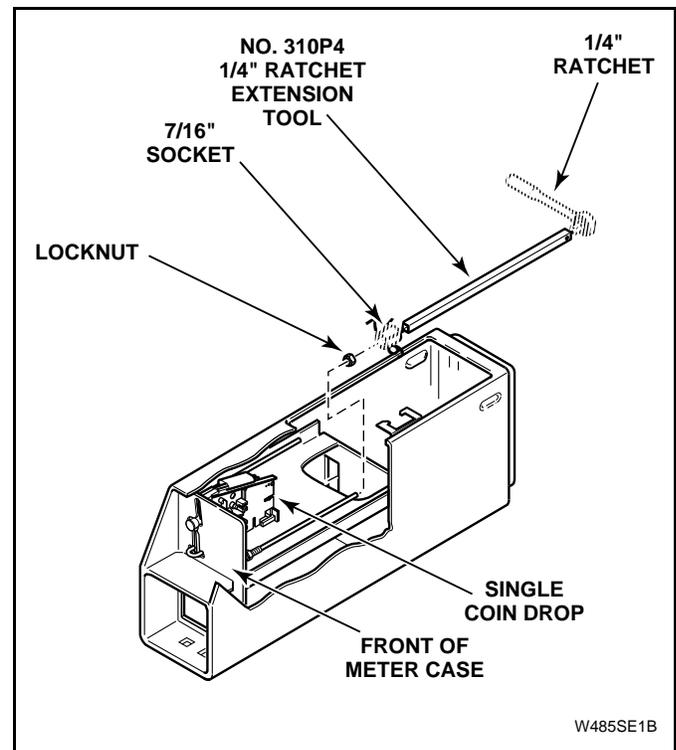

Figure 13
- (4.) Use a 7/16 inch socket with No. 310P4 1/4 inch Ratchet Extension Tool and remove two locknuts holding coin drop to front of meter case. See *Figure 13*.
- (7.) Using a 7/16 inch socket with No. 310P4 1/4 inch Ratchet Extension Tool, reinstall the 2 locknuts shown in *Figure 13*. Tighten locknuts firmly.